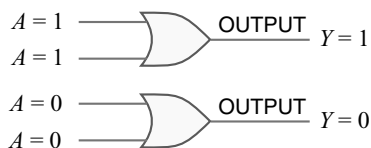

Fig. 24.41
**Theorem 5.** ( $A + A = A$ ). This theorem states that when a variable  $A$  is ORed with itself, the output is equal to the variable. Thus, if  $A$  is a 0, then  $0 + 0 = 0$  and if  $A$  is a 1, then  $1 + 1 = 1$ . Fig. 24.41 illustrates this theorem.